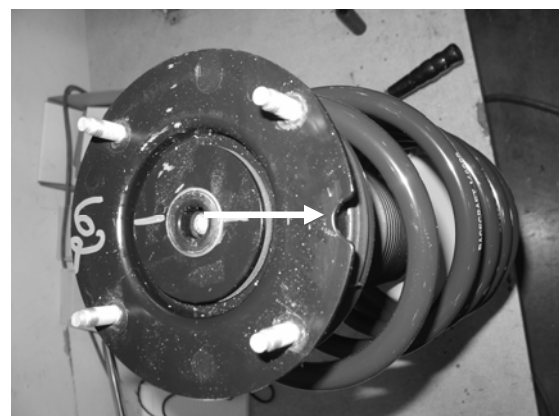

Figure 5
9. Apply a dab of red Loctite to the threads of the center stud. Use the stock 21mm nut to tighten the cap on to the new tower. (Figure 5) There should be at least a few threads above the nut when the nut is fully tightened. **Torque center strut nut to 46 ft-lbs.**